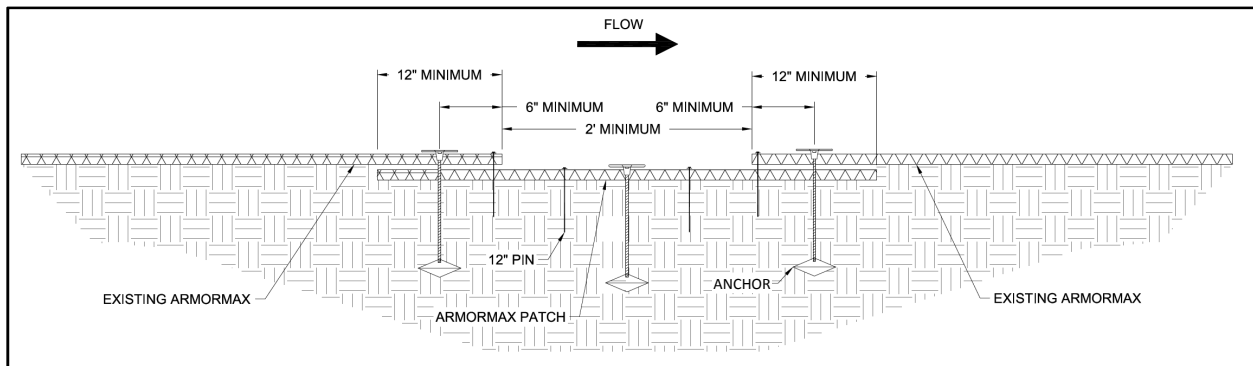
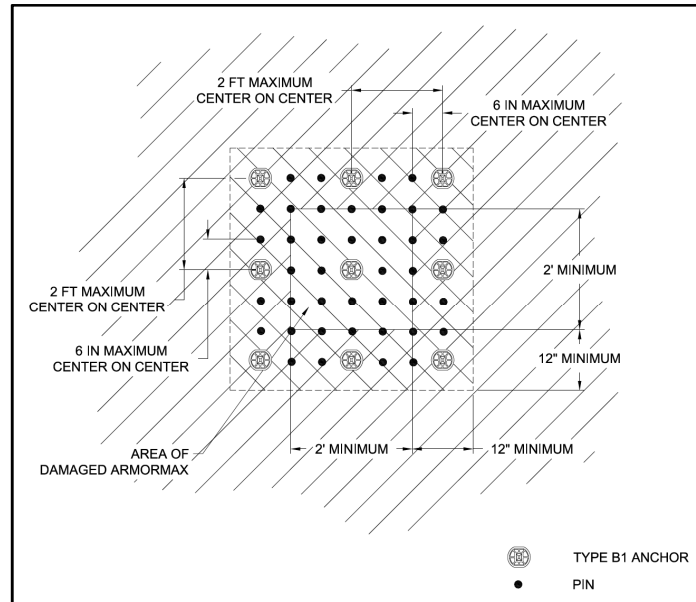

Figure 23: ARMORMAX Patch Cross Section
Figure 24: ARMORMAX Patch Plan View
- A. *Acceptable* (A) - The rated area is in satisfactory, acceptable condition, and will function as designed and intended during the rain event. ARMORMAX has no exposed edges, is installed tightly by maintaining direct contact to the slope surface with no rilling beneath, and has over 90% vegetation cover. There is no noticeable damage present.
- B. *Minimally Acceptable* (M) - The rated area has a minor deficiency that needs to be corrected. The minor deficiency will not seriously impair the functioning of the area during the next rain event; however, the overall reliability of the project will be lowered because of the minor deficiency. ARMORMAX has 75% vegetation cover with un-vegetated patches as large as one square yard. Edges of ARMORMAX are exposed with noticeable damage. Minimal erosion has occurred underneath ARMORMAX.
- C. *Unacceptable* (U) - The rated area is unsatisfactory. The deficiency is so serious that the area will not adequately function in the next rain event. ARMORMAX has been physically torn, ripped, or lifted from the slope surface. Less than 75% vegetation cover is present with un-vegetated patches being greater than 1 square yard, and there is evidence that erosion is occurring beneath ARMORMAX.
3. To repair ARMORMAX, cut out and remove damaged areas in a square configuration a minimum size of 2 ft by 2 ft. Remove all vegetation and debris atop of ARMORMAX. Loosen the top 1 to 2 in of soil in the patch area then seed. The subgrade of area to be patched shall be prepared to be smooth and uniform and transition smoothly into the in-situ area. Cut a square ARMORMAX patch a minimum of 12 in greater than the damaged area for all four sides of the patch. Overlap the patch area in all directions a minimum of 12 in. The patch overlaps shall be tucked under the existing damaged ARMORMAX material (Figure 23 and Figure 24).